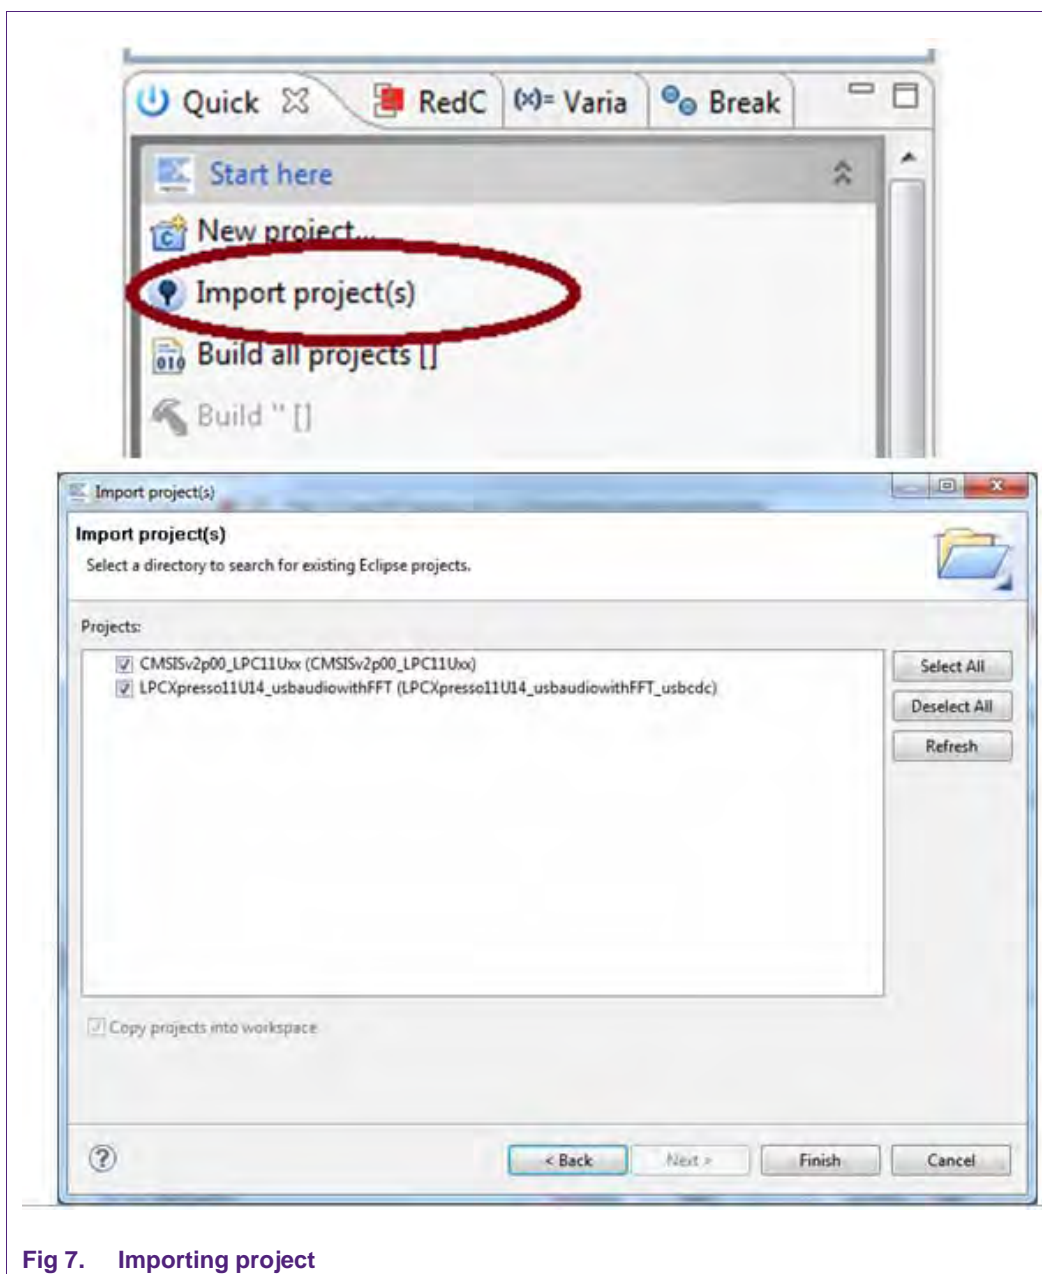

Fig 7. Importing project
2. Import the project file using LPCXpresso (as shown in Fig 7)